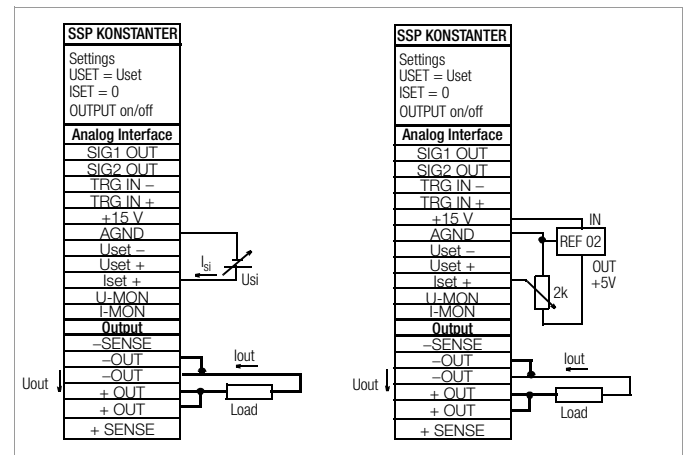

Figure 5.5 Wiring for Controlling Output Current with External Voltage / External Potentiometer
- Control voltage **U_{si}** may **not** be connected to the **negative output pole** at the **load side**. (Figure 5.5)
- If **remote adjustment of output current** is to be accomplished by means of a **potentiometer**, wiring can be laid out as shown in Figure 5.5.